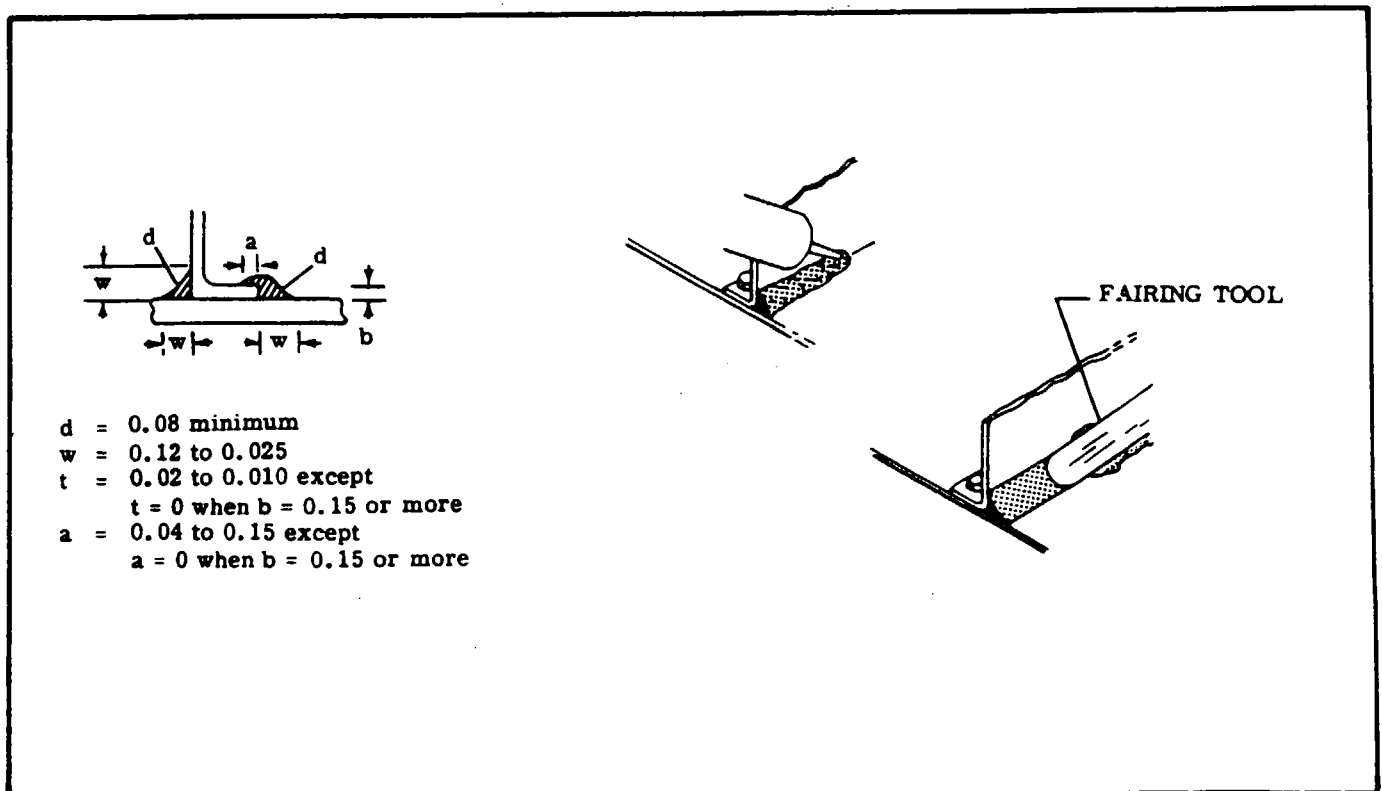

Figure 18-7 Fillet Sealing
- c. Fillet shapes and dimensions should conform to dimensions given in figure 18-7 as near as possible.